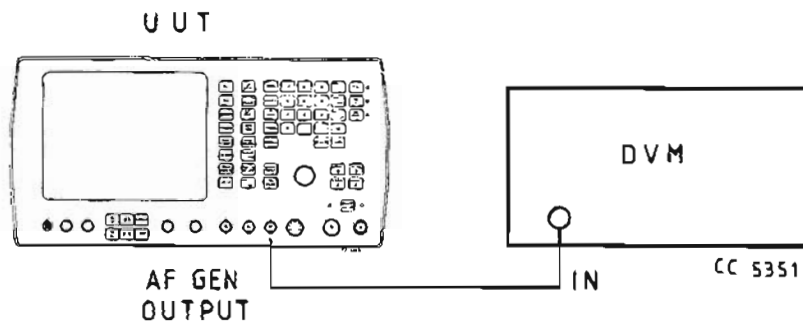

Fig. 15 Test equipment connections for a.f. generator d.c. offset performance checks
- (1) Connect the equipment as shown in Fig. 15.
- (2) Set the u.u.t. to AF GEN, frequency 50 Hz, level 0 mV.
- (3) Set the d.v.m. to measure d.c. level.
- (4) Check that the d.c. level indicated on the d.v.m. is less than 100 mV d.c.
- (5) Repeat the above for random frequencies between 50 Hz and 15 kHz.